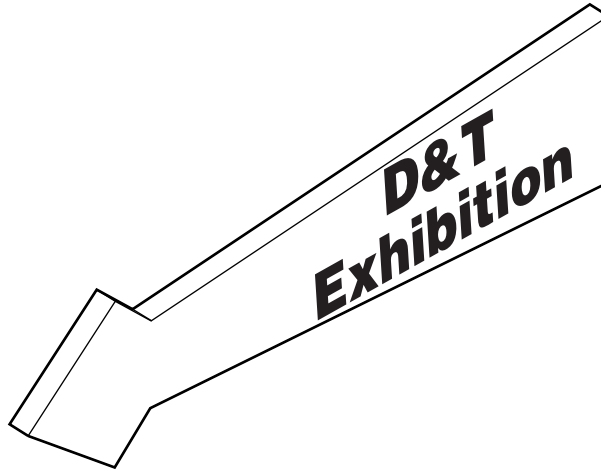

Fig. 1
- 1 Fig. 1 shows a sign that will be placed in a school corridor to give directions to a D&T exhibition. The sign is made from 15 thick hardwood.